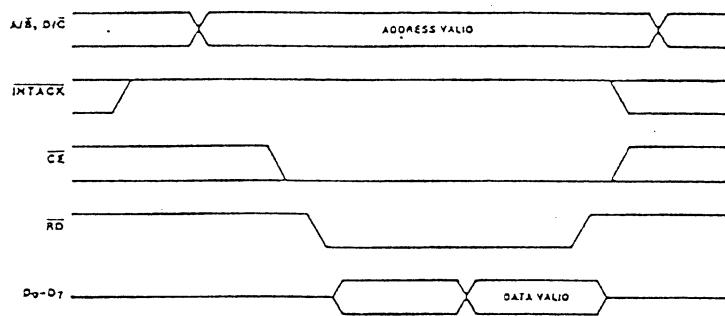

Figure 12. Read Cycle Timing
**Read Cycle Timing.** Figure 12 illustrates Read cycle timing. Addresses on A/B and D/C and the status on INTACK must remain stable throughout the cycle. If  $\overline{CE}$  falls after  $\overline{RD}$  falls or if it rises before  $\overline{RD}$  rises, the effective  $\overline{RD}$  is shortened.